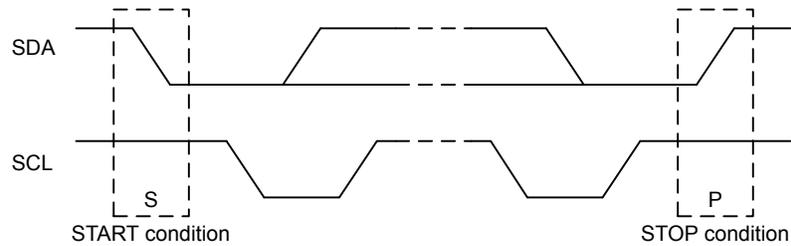

Figure 21.4. I²C START and STOP Conditions
START and STOP conditions are used to initiate and stop transactions on the I²C-bus. All transactions on the bus begin with a START condition (S) and end with a STOP condition (P). As shown in Figure 21.4 I²C START and STOP Conditions on page 556, a START condition is generated by pulling the SDA line low while SCL is high, and a STOP condition is generated by pulling the SDA line high while SCL is high.